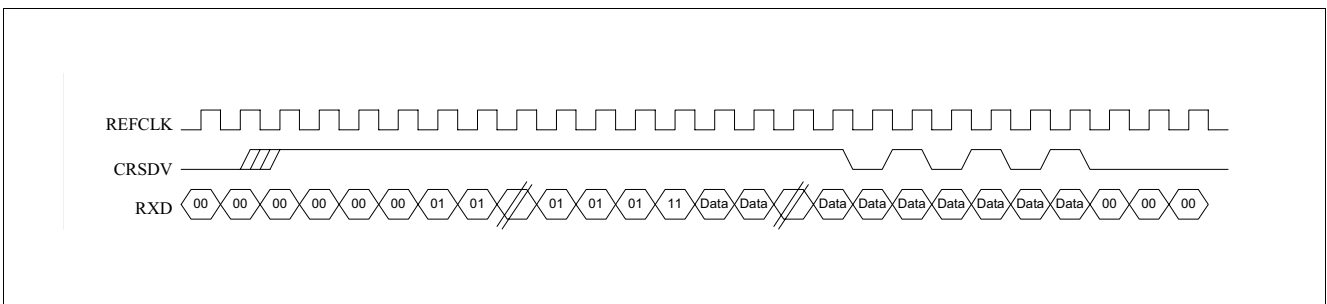

Figure 7 RMI Reception Without Error
Figure 7 shows the relationship among REFCLK, CRSDV_P, RXD0_P, RXD1_P and RXER_P while receiving a valid packet. Carrier sense is detected, which causes CRSDV_P to assert asynchronously to REFCLK. The received data is then placed into the FIFO for re synchronization. After a minimum of 12 bits are placed into the FIFO, the received data is presented onto RXD[1:0]_P synchronously to REFCLK. Note that while the FIFO is filling up RXD[1:0]_P is set to 00 until the first received di-bit of preamble (01) is presented onto RXD[1:0]_P. When carrier sense is de-asserted at the end of a packet, CRSDV_P is de-asserted when the first di-bit of a nibble is presented onto RXD[1:0]_P synchronously to REFCLK. If there is still data in the FIFO that has not yet been presented onto RXD[1:0]_P, then on the second di-bit of a nibble, CRSDV_P reasserts. This pattern of assertion and de-assertion continues until all received data in the FIFO has been presented onto RXD[1:0]_P.